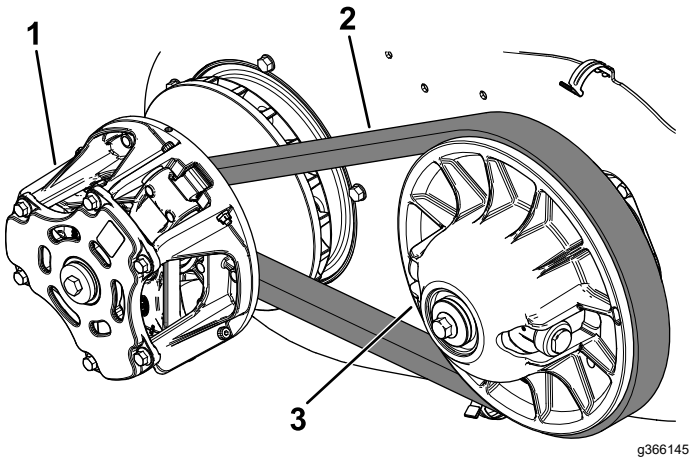
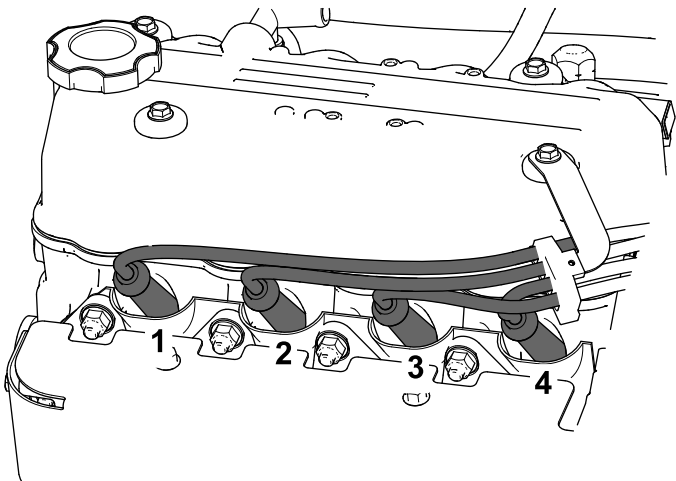

Figure 69
Figure 70
- Rotate the primary clutch (Figure 69) until the exhaust valve on cylinder 1 (Figure 70) is completely open.
1. Rotate the primary clutch (Figure 69) until the intake valve on cylinder 1 (Figure 70) is completely open.